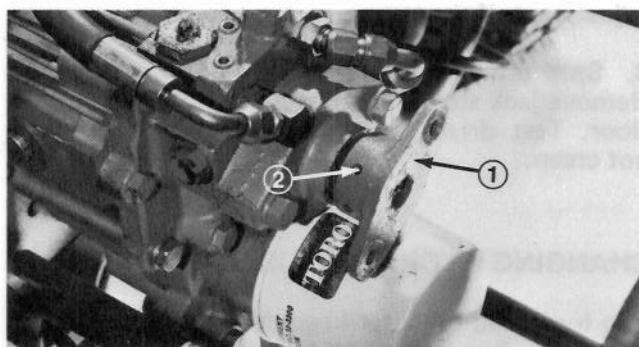

Figure 75
4. Loosen two set screws retaining hub on pump shaft (Fig. 75). Slide hub off shaft.
6. Set drain pan below front of transmission. Remove two capscrews and flatwashers securing charge pump housing to center section (Fig. 75). Using a seal protector, slide charge pump housing and rotor assembly off pump shaft. O-ring will probably stay in groove on inside of charge pump housing.